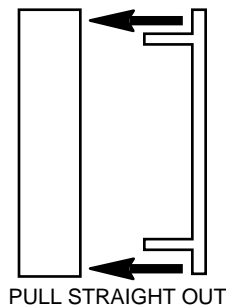

Figure 2. Removing thermostat from subbase
1. Remove the packing material from the thermostat. Place the fingers of one hand on the center top and bottom portion of the thermostat. Grasp the subbase in the other hand on the top and bottom center, and gently pull straight out (see Fig. 2). The thermostat has pin and socket connectors. Forcing or prying on the thermostat will cause damage to the unit.